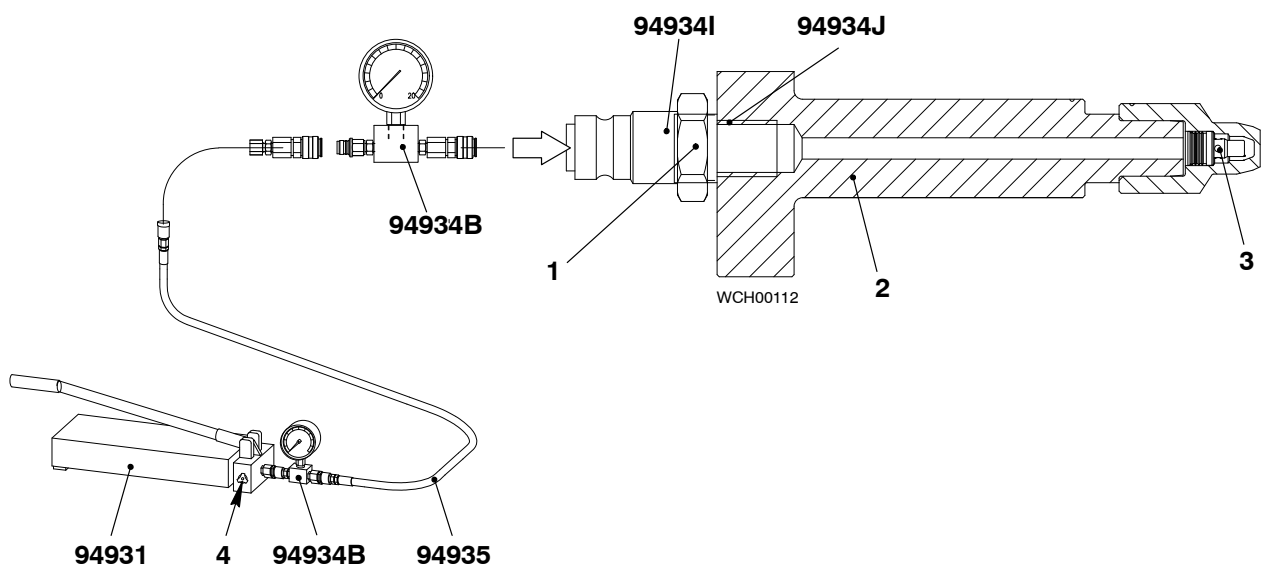

Fig. 3
You do a function check to make sure that the non-return valve (3, Fig. 3) operates correctly. The opening pressure of the non-return valve (6) must be between 4.0 bar and 6.0 bar.